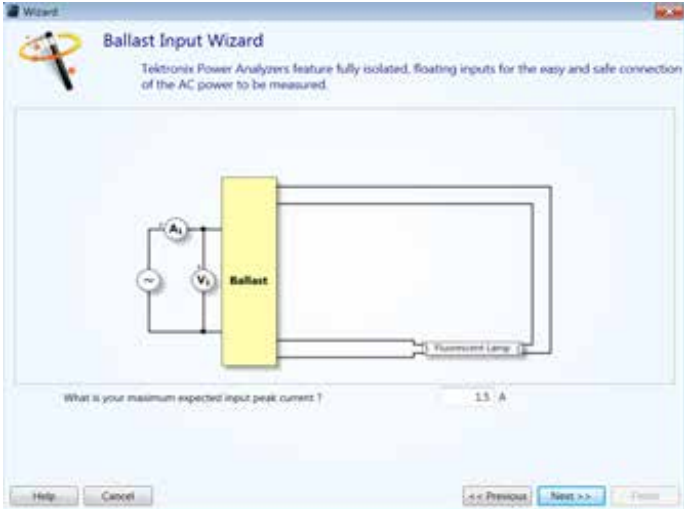

Figure 5. Ballast Setting Wizard Window.
- Enter the anticipated peak input current and click on Next as shown in Figure 5. The following screen will show you how to make connections between the ballast input and the power analyzer. These connections are simplified by the use of the Breakout Box,
- Click on the start button to begin the measurement. The requested unit configuration will be sent to the PA1000. Once the PA1000 has been configured, the measurement grid will start to update at approximately twice per second, as shown in Figure 5.